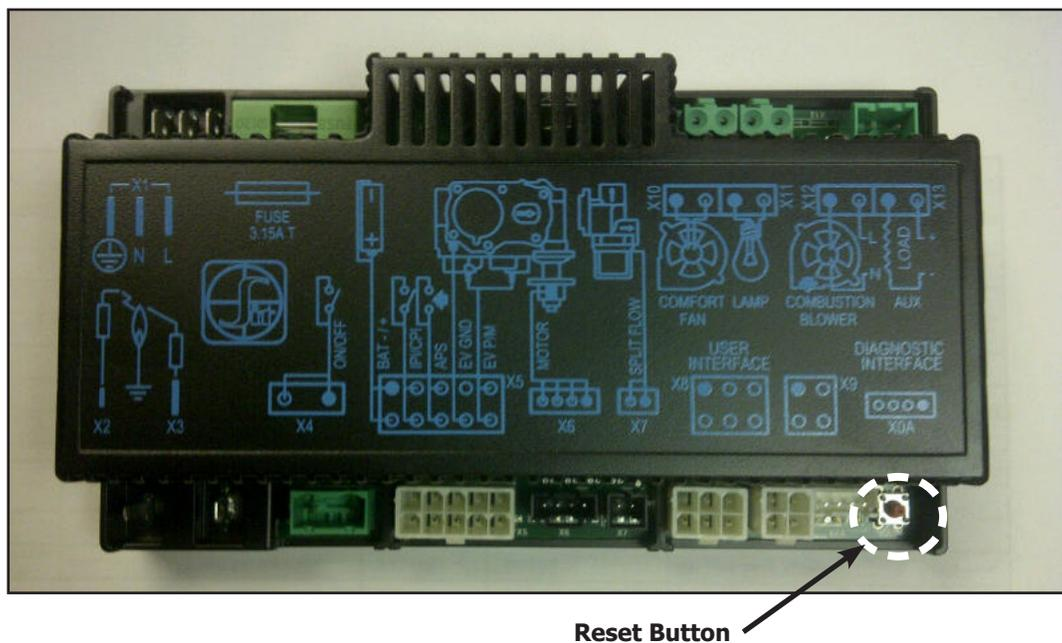
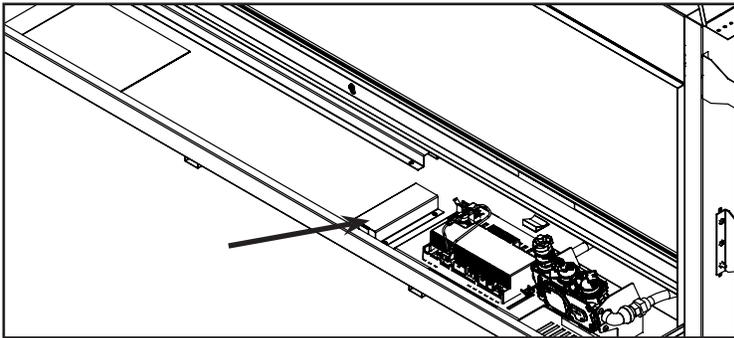

Figure 4: Integrated Fireplace Controller
Figure 5: Battery Holder
The Proflame 2 IFC (Figure 4) connects directly to the gas valve, split, stepper motor, pilot and convection fan with a wiring harness. The IFC is mainly powered by 120 VAC but can also run off a battery backup four (4) AA type batteries for shorter periods of time. The IFC accepts commands via radio frequency from the Transmitter to operate the appliance in accordance with the particular Proflame 2 system configuration. The IFC has a red reset button at the front right corner that is used to synchronize the Transmitter when using the for the first time, or after the batteries have been replaced.
Install the four (4) AA batteries into the IFC battery holder (See Figure 5). Note the polarity of the battery and insert into the battery bay as indicated on the body of the battery holder. Press the reset button on the IFC marked "SW1" (see Figure 4).